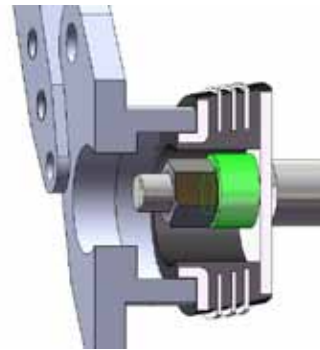

Figure 9
- d. Install OEM spacers and lock nuts to pivot shaft ends. Hold right side nut and torque left side to 45 lbs. ft. Hold left side and torque right side to 45 lbs. ft. Figure 9